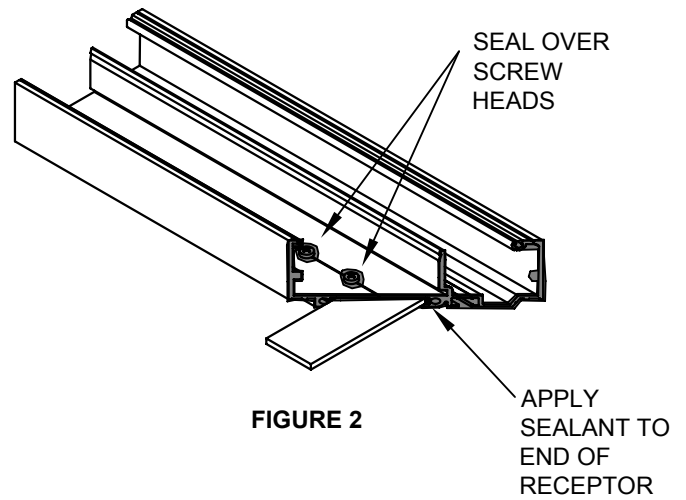

FIGURE 2
- STEP D:** Apply sealant to end of the mitered section and over the heads of the fasteners. (Figure 2)